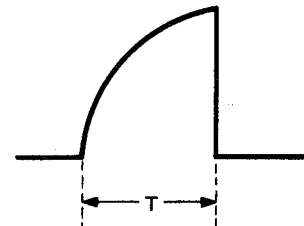

Figure 83.
4. Setting sync slope of oscilloscope to (-), adjust R* (PRESET) as shown in Fig. 83.